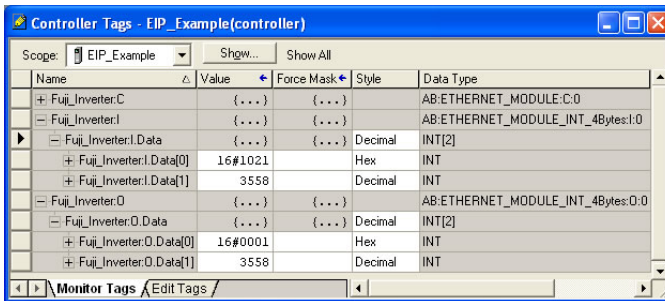

Figure 89: Controller Tags for I/O Access
- 8) By double-clicking “Controller Tags” in the project tree, it is possible to view the newly-added tags. Refer to Figure 89. The Fuji_Inverter:C configuration tag is unused, the Fuji_Inverter:I tag allows viewing of the input data, and the Fuji_Inverter:O tag allows modification of the output data. These tags will be synchronized with the inverter at whatever rate was established for the module's RPI.
We can directly interact with these tags in order to control and monitor the inverter. In Figure 89, for example, we can see that the first 16-bit word of output data (Fuji_Inverter.O.Data[0]) has been set to a hexadecimal value of 0x0001. Referring back to Figure 41, we can see that the first element of the consumed register configuration references register 1799, which is the inverter's operation command register. A value of 0x0001, therefore, means that the FWD (run forward) bit has been turned ON.